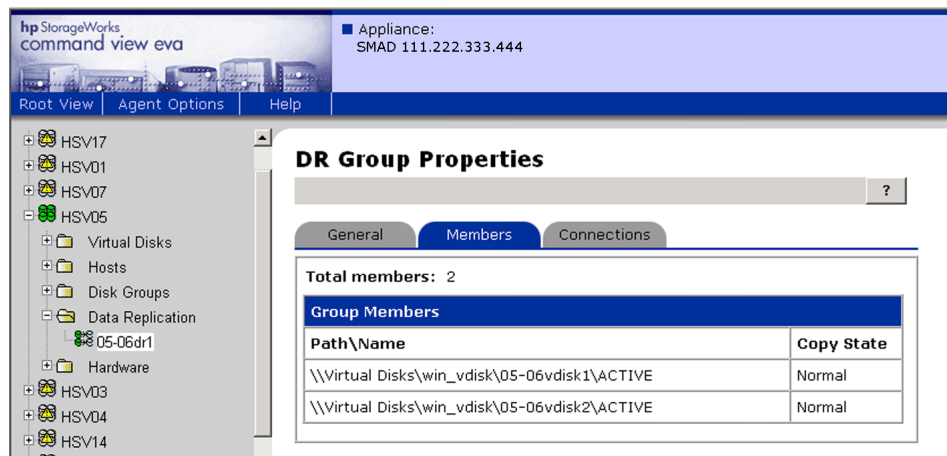

Figure 62: Checking normalization of DR group members
3. If normalization is occurring to members of the DR group to be moved, wait for the members to normalize. Normalization is complete when the copy state of the members listed in the Group Members pane on the DR Group Properties page show to be normal (see Figure 62). If an application requires that I/O be suspended before creation of a Snapclone, suspend I/O at this time.
- f. Wait for normalization to complete. Normalization is complete when the copy state of the members listed in the DR Group Properties pane are shown as normal (see Figure 62).